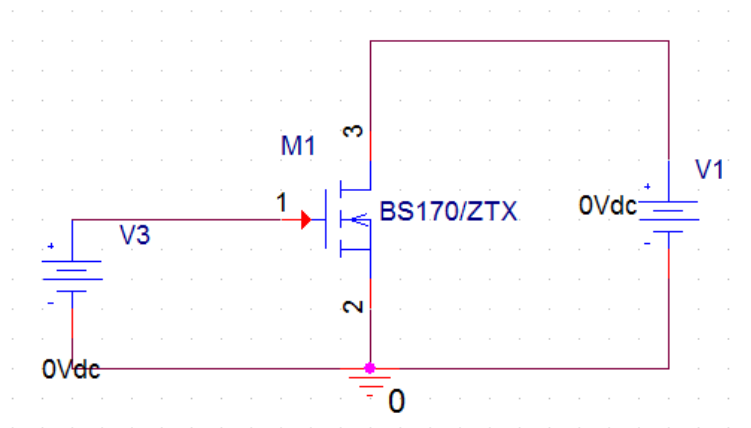

Figure 1: Circuit used to characterize a NMOSFET
The circuit used in the electrical characterization of the MOSFET is shown in figure 1. Simulate the drain current-voltage characteristics using PSpice of the BS170 Metal-Oxide Semiconductor Field-Effect Transistor (MOSFET). The PSpice code to simulate and plot the I_D (V_{GS} , V_{DS}) drain-current characteristics of this N-channel MOSFET is given below. Use this model to create a PSpice input file for simulating the MOSFET characteristics. Note in particular the model parameters used for the threshold voltage (V_{TO}), the transconductance (K_P), and the channel-length modulation parameter (λ).
Once you add the 'ZETEX' library, search for BS170/ZTX. Add this part to your schematic. You will need to add voltage sources to your schematic to represent VGS and VDS and wire them to match the circuit in figure 1.
- Voltage Source: VDS (V1 in figure 1)
- Voltage Source: VGS (V3 in figure 1)